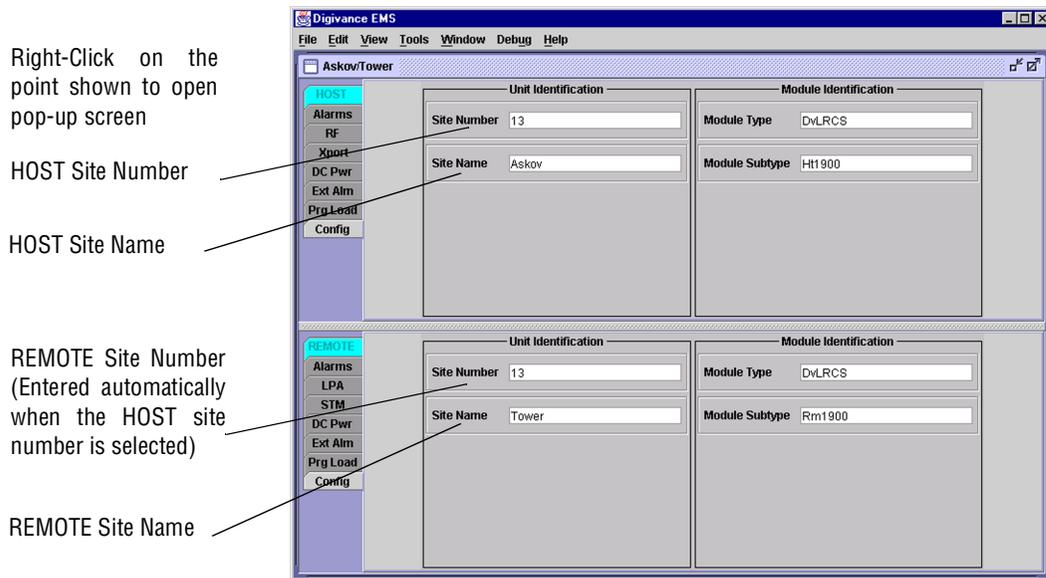
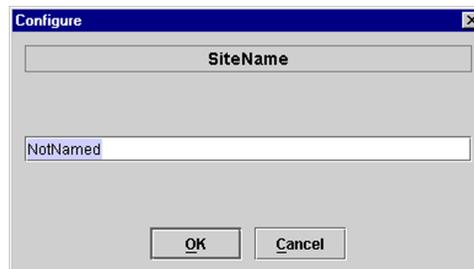

Figure 4-6. HOST and REMOTE Config Displays
Figure 4-7. HOST Site Name Pop-Up Screen
1. Click on the **HOST Config** tab and on the **REMOTE Config** tab. The **HOST Config** display and the **REMOTE Config** display will open within the EMS main window as shown in Figure 4-6.
2. Right-click on the **HOST Site Name** field (see Figure 4-6). The **Site Name** pop-up screen will open as shown in Figure 4-7. Enter a unique name for the HOST. The name may be up to 32 characters long and must not contain any spaces. The name may include numbers, punctuation, and upper or lower case letters and must always begin with a letter. Click on **OK** to close the screen and make the changes take effect.
3. Right-click on the **HOST Site Number** (see Figure 4-6). The **Site Number** pop-up screen will open. Enter any number between 1 and 24 and then click on OK to close the screen and make the changes take effect.
4. Check the **REMOTE Site Number** field (see Figure 4-6). The REMOTE Site Number does not have to be entered. When the HOST Site Number is entered, the system will automatically enter the same number for the REMOTE Site Number.
5. Right-click on the **REMOTE Site Name** field (see Figure 4-6). The **Site Name** pop-up screen will open. Enter a unique name for the REMOTE. The name may be up to 32 characters long and must not contain any spaces. The name may include numbers, punctuation, and upper or lower case letters and must always begin with a letter. Click on OK to close the screen and make the changes take effect.